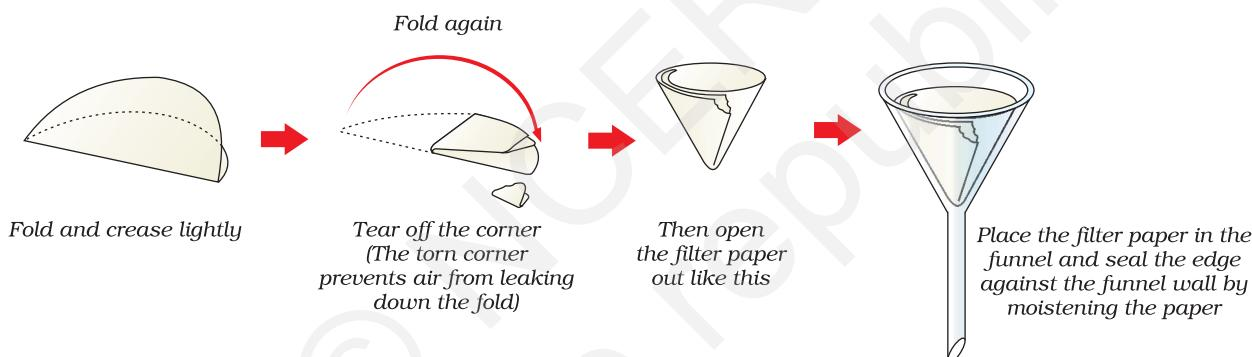

Fig. 2.10 :Folding the filter paper and placing it in the funnel
- Fold the filter paper to fit in the funnel as shown in Fig. 2.10. For this, fold the circular filter paper in half, tear off a small piece of paper from the corner and once again fold it.